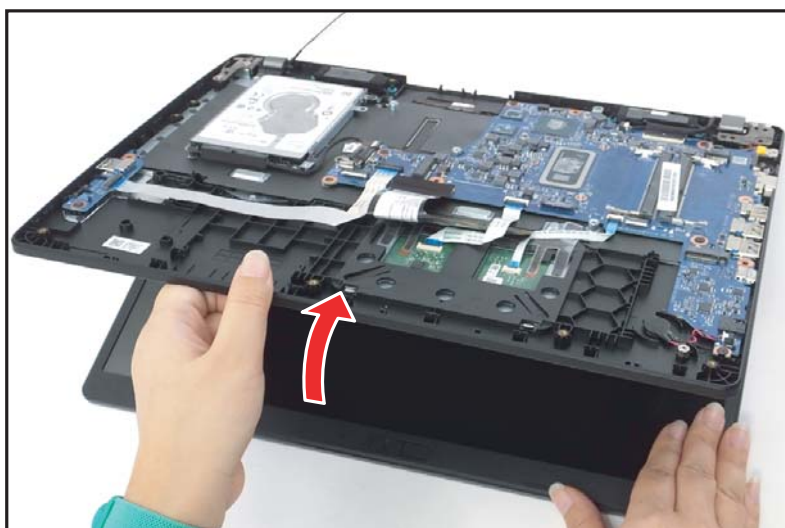

Figure 1-36. Mainboard Removal
2. Lift the top assembly until it is fully open (Figure 1-36).